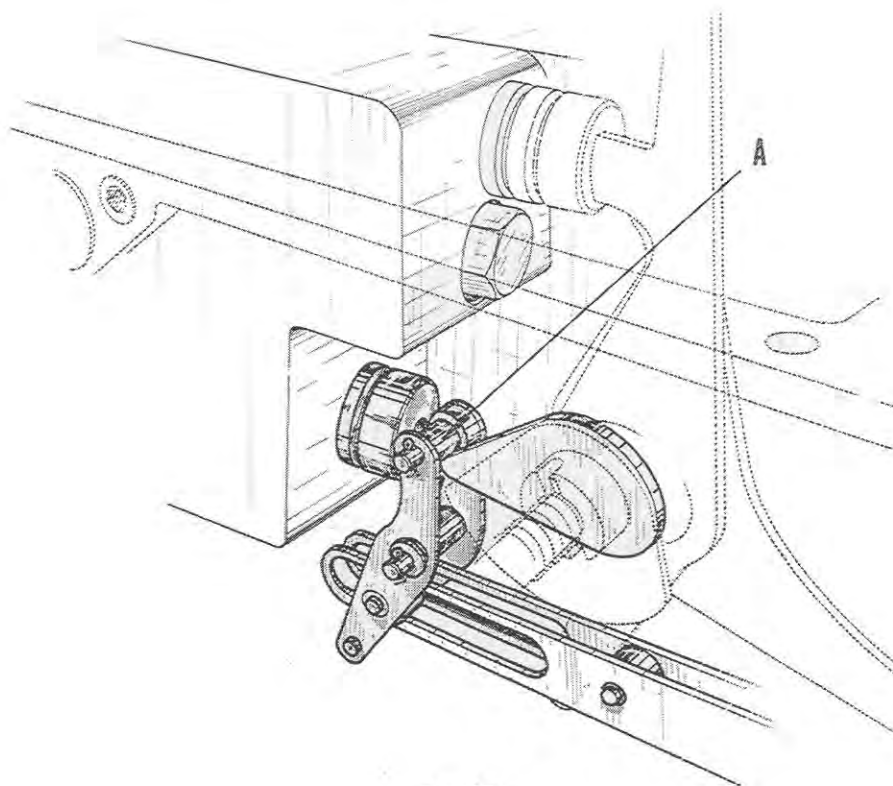

Fig. 17
- 4) Turn the quadrant anti-clockwise until the acute angled cam comes in contact with the roller of the secondary valve. This should not move (Fig. 17).